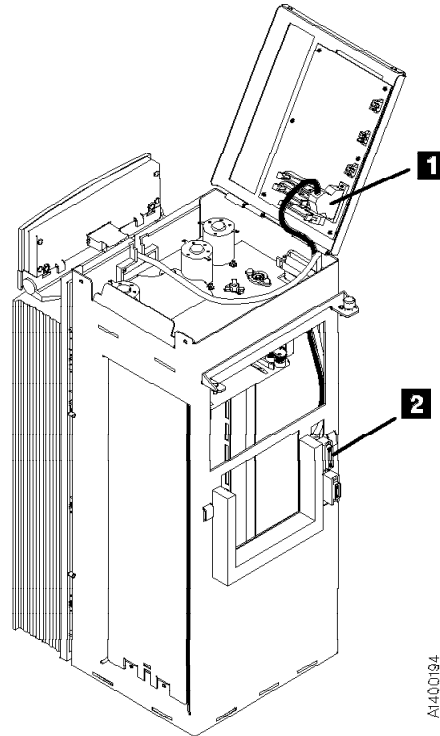

Figure 308. Drive/ACF Cable
4. See Figure 308. Disconnect the drive/ACF cable connector from the CD1 connector **1** on the motor control card.